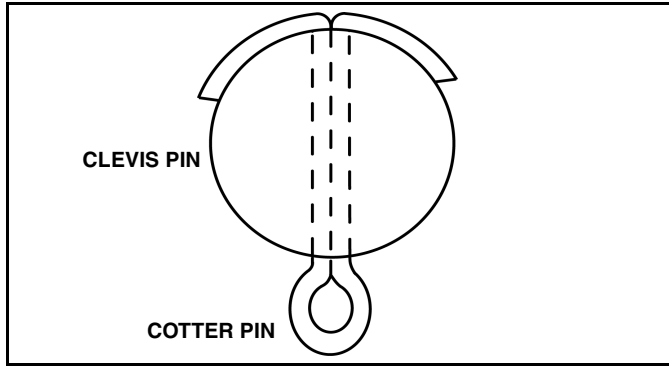
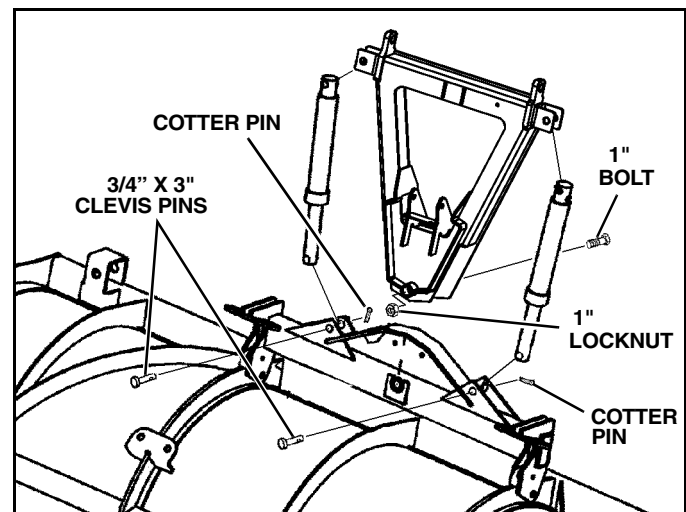
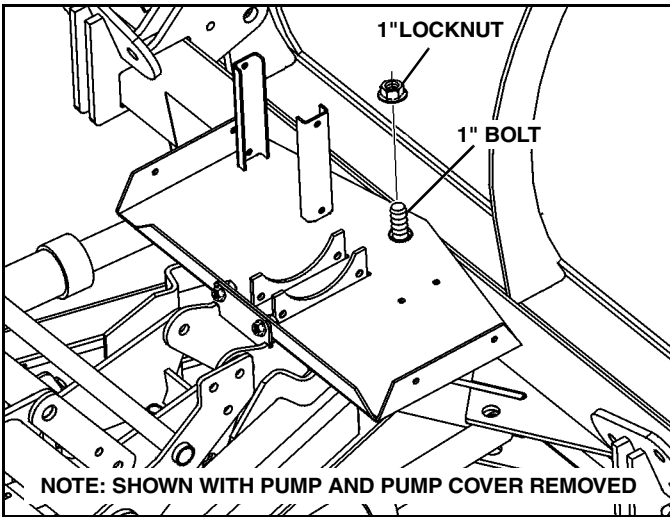

Figure 1-6
Figure 1-13
Figure 1-14
NOTE: Make sure cotter pin is properly bent or pin may work loose (See Figure 1-6).
3. Remove 1" locknut and bolt. Slide swing frame into A-frame. Replace 1" bolt and locknut and tighten. (See Figure 1-13). and Figure 1-14
4. Remove cotter pins and 3/4" clevis pins from rod end of cylinders. Extend cylinders using plow control to align holes in cylinder rod and swing frame. Insert 3/4" clevis pins and secure with cotter pins. (See Figure 1-13). Bend cotter pin as shown in Figure 1-6 to prevent it from working loose.